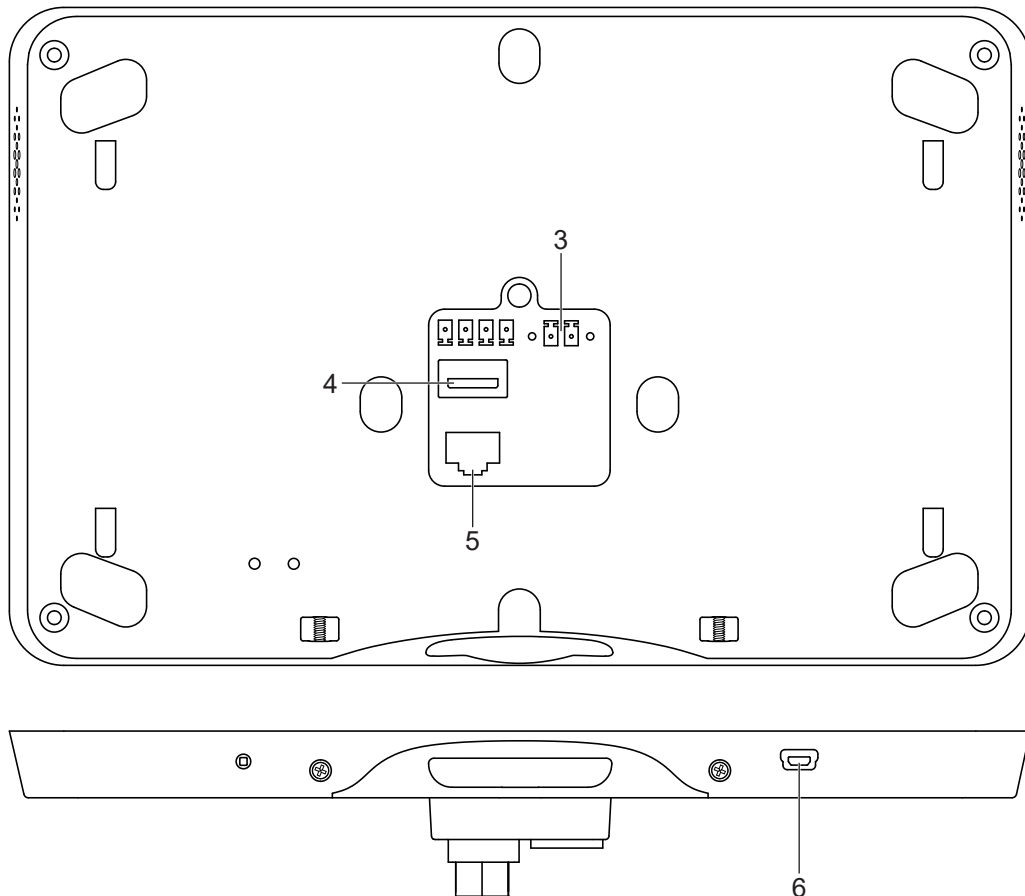

Fig. 3: Connection
- Connect the power supply (3) and LAN (5). (fig. 3)